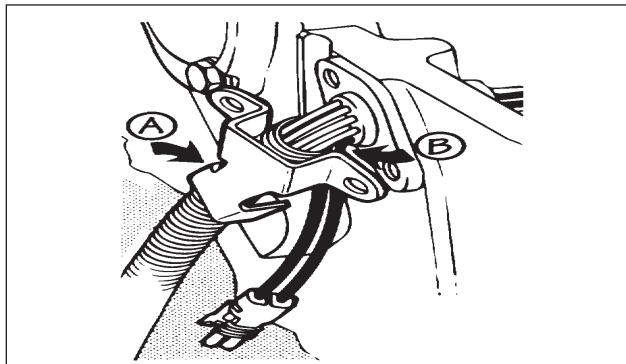

Fig 5
- b. Remove 2 harness mounting bolts from rear of cylinder head at head pass through holes. (See Fig. 5)